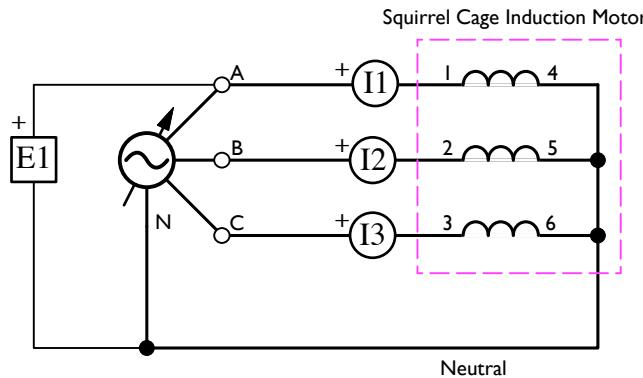

Figure 4.15: Three-Phase Motor – Three Phases
30. Remove the belt that couples the three-phase squirrel cage induction motor to the dynamometer, and construct the circuit shown in Figure 4.15.